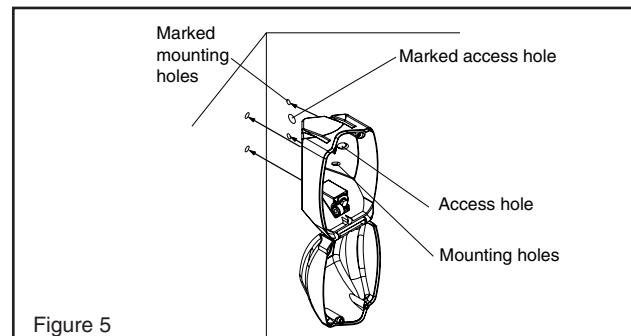

Figure 5
- Place the open housing in a corner at the desired height. Mark the location of the four mounting holes and the cable access hole (Figure 5).